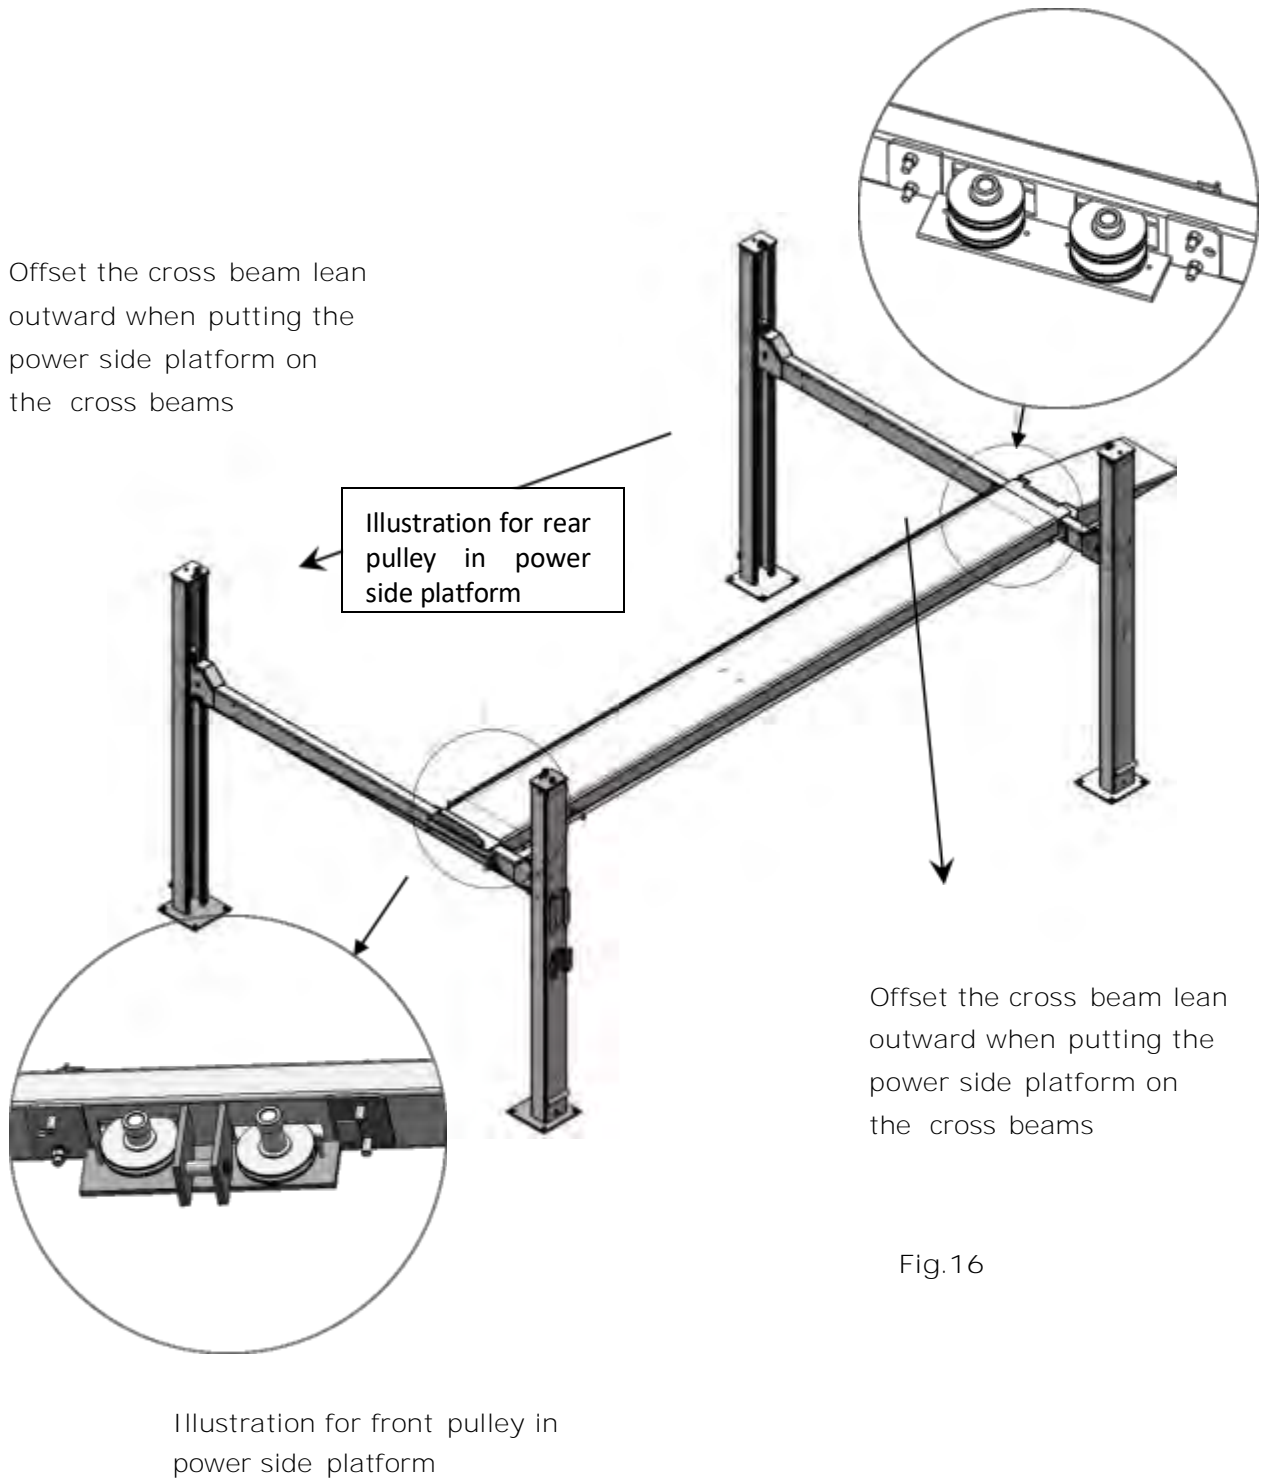

Fig.16
1. Raise the power side platform above the cross beam by a forklift or crane. Then move the cross beam outwards until the pulleys of both platforms can be rested into the cross beams, slots (see Fig.16). Tighten the Power side Platform to the Cross beams by using bolts.